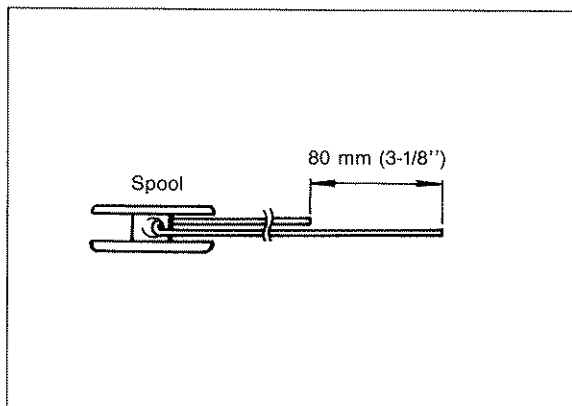

Fig. 31
2. Thread the new nylon cord through the opening in the middle of the spool (Fig. 31). Pull the nylon cord through this opening until the difference in length between both halves is only approximately 80 mm.